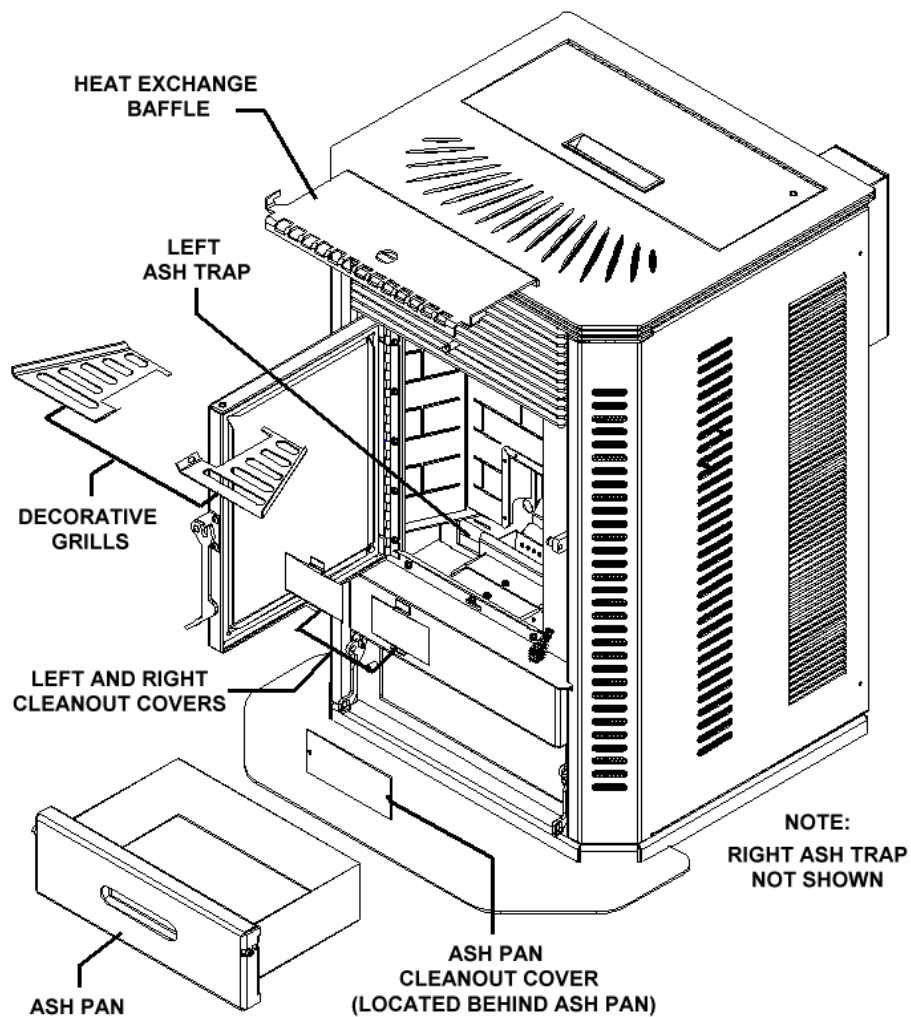

Figure 26
4. **Heat Exchange Baffle.** Remove the baffle and clean the ashes that accumulate on a regular basis. Once a month or sooner, depending on the quality of fuel being used (See Figure 26)
To remove the baffle (See Figure 26), lift the back of the baffle up to clear the inner back of the stove and slide towards the front of the stove. The baffle will slide out of the keyhole slots and drop down. ***When putting the baffle back in the stove, make sure the tabs are in the keyhole slots and the back of the baffle is lifted up over the inner back.*** Clean the baffle on a regular basis. Frequency of cleaning depends on amount of fuel being burnt and the quality of the fuel. Fuel with low ash content is recommended.
1. **Spring Shutdown.** After the last burn in the spring let the unit cool down. Remove all fuel from the hopper and the auger. Thoroughly clean the burn pot, burn pot box, ash pan and ash traps behind the ash pan. (To locate the ash traps see figure 26)